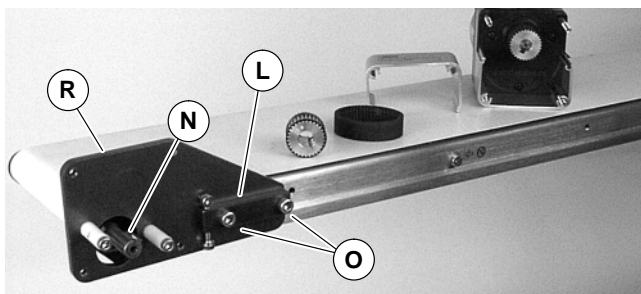

Figure 5
4. Remove two (2) top screws (Q) and remove top cover (K).
5. Attach mounting bracket (R of Figure 5) and tensioner bar (L) with screws (O). Hand-tighten screws (O).
6. Install key (N of Figure 5).